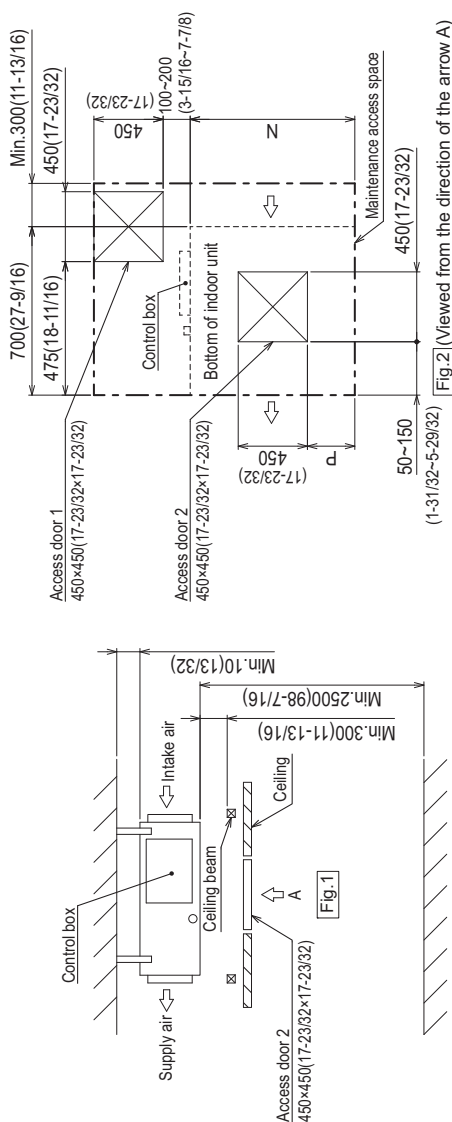

Fig. 2 (Viewed from the direction of the arrow A)
- Create access door 1 and 2 (450×450mm(17-23/32×17-23/32) each) as shown in Fig. 2.